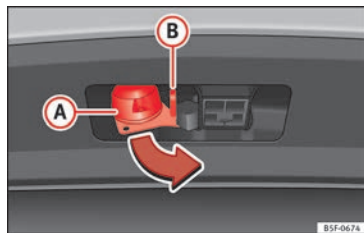

Fig. 190 Turn the 13-pin connector.
- Grip the 13-pin connector at area **A** and remove it in the direction of the arrow **»» Fig. 190**.
- Grip the 13-pin connector at area **A** and insert it in the opposite direction to the arrow **»» Fig. 190**.
The safety lug **(B)»» Fig. 190** is used to hook up the trailer's retainer cable.